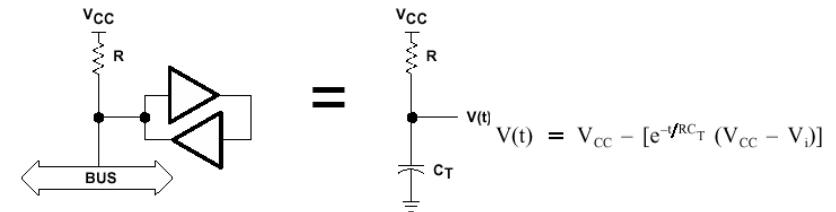

Figure 7.16 Effect of pull-up resistor
- Usually, a 1-k $\Omega$  to 10-k $\Omega$  resistor is recommended. The maximum input transition time must not be violated selecting pullup or pulldown resistors (see Figure 7.16). Otherwise, components may oscillate, or device reliability may be affected.